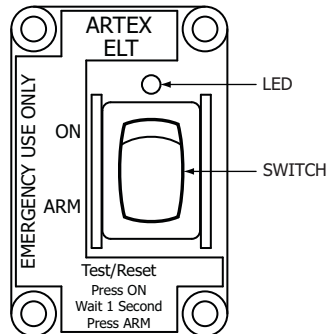

Figure 3. Cockpit Remote Switch
- (2) The cockpit-mounted remote switch assembly is comprised of an ELT status LED and control switch, which allows an operator to monitor ELT status and manually turn on the ELT (i.e., activate) for testing and reset (i.e., deactivate) the ELT. See "Figure 3. Cockpit Remote Switch".